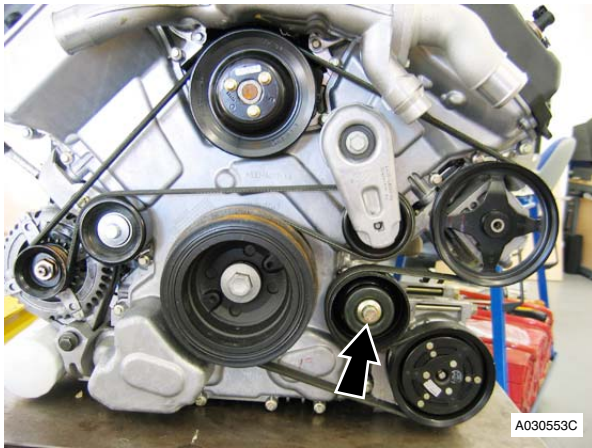

Figure 5
27. Remove the bolt that attaches the A/C compressor idler pulley. Remove the pulley (refer to Figure 5).